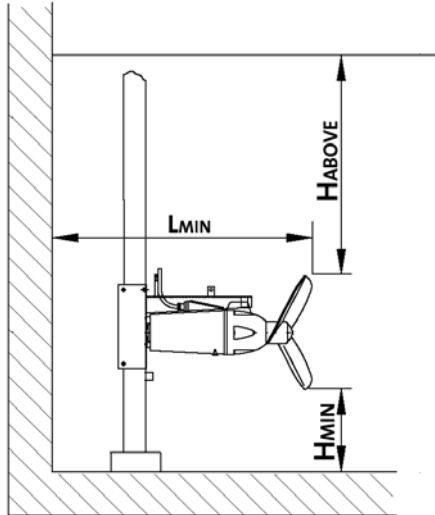

Fig. 4
- The distance between the propeller tip and the bottom of the tank should be 20-40 cm, H_{MIN} in fig. 4.
- The distance from the propeller tip to the liquid surface should be at least half the propeller diameter, H_{ABOVE} in fig. 4.
- The distance between the propeller tip and the wall behind the mixer must be at least twice the propeller diameter, L_{MIN} in fig. 4.